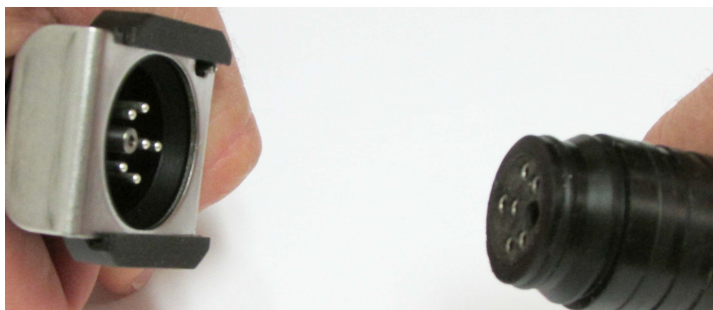

Figure 2-6 How to connect a TIENet plug to the Signature Portable
1. Align the connectors and push together (Figure 2-6).